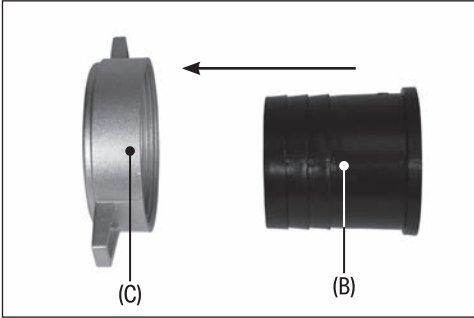

Fig. 1
1. Pass the hose barb (B) through the threaded side of the hose barb coupling (C) so that the thread sits away from the hose barb (Fig. 1).